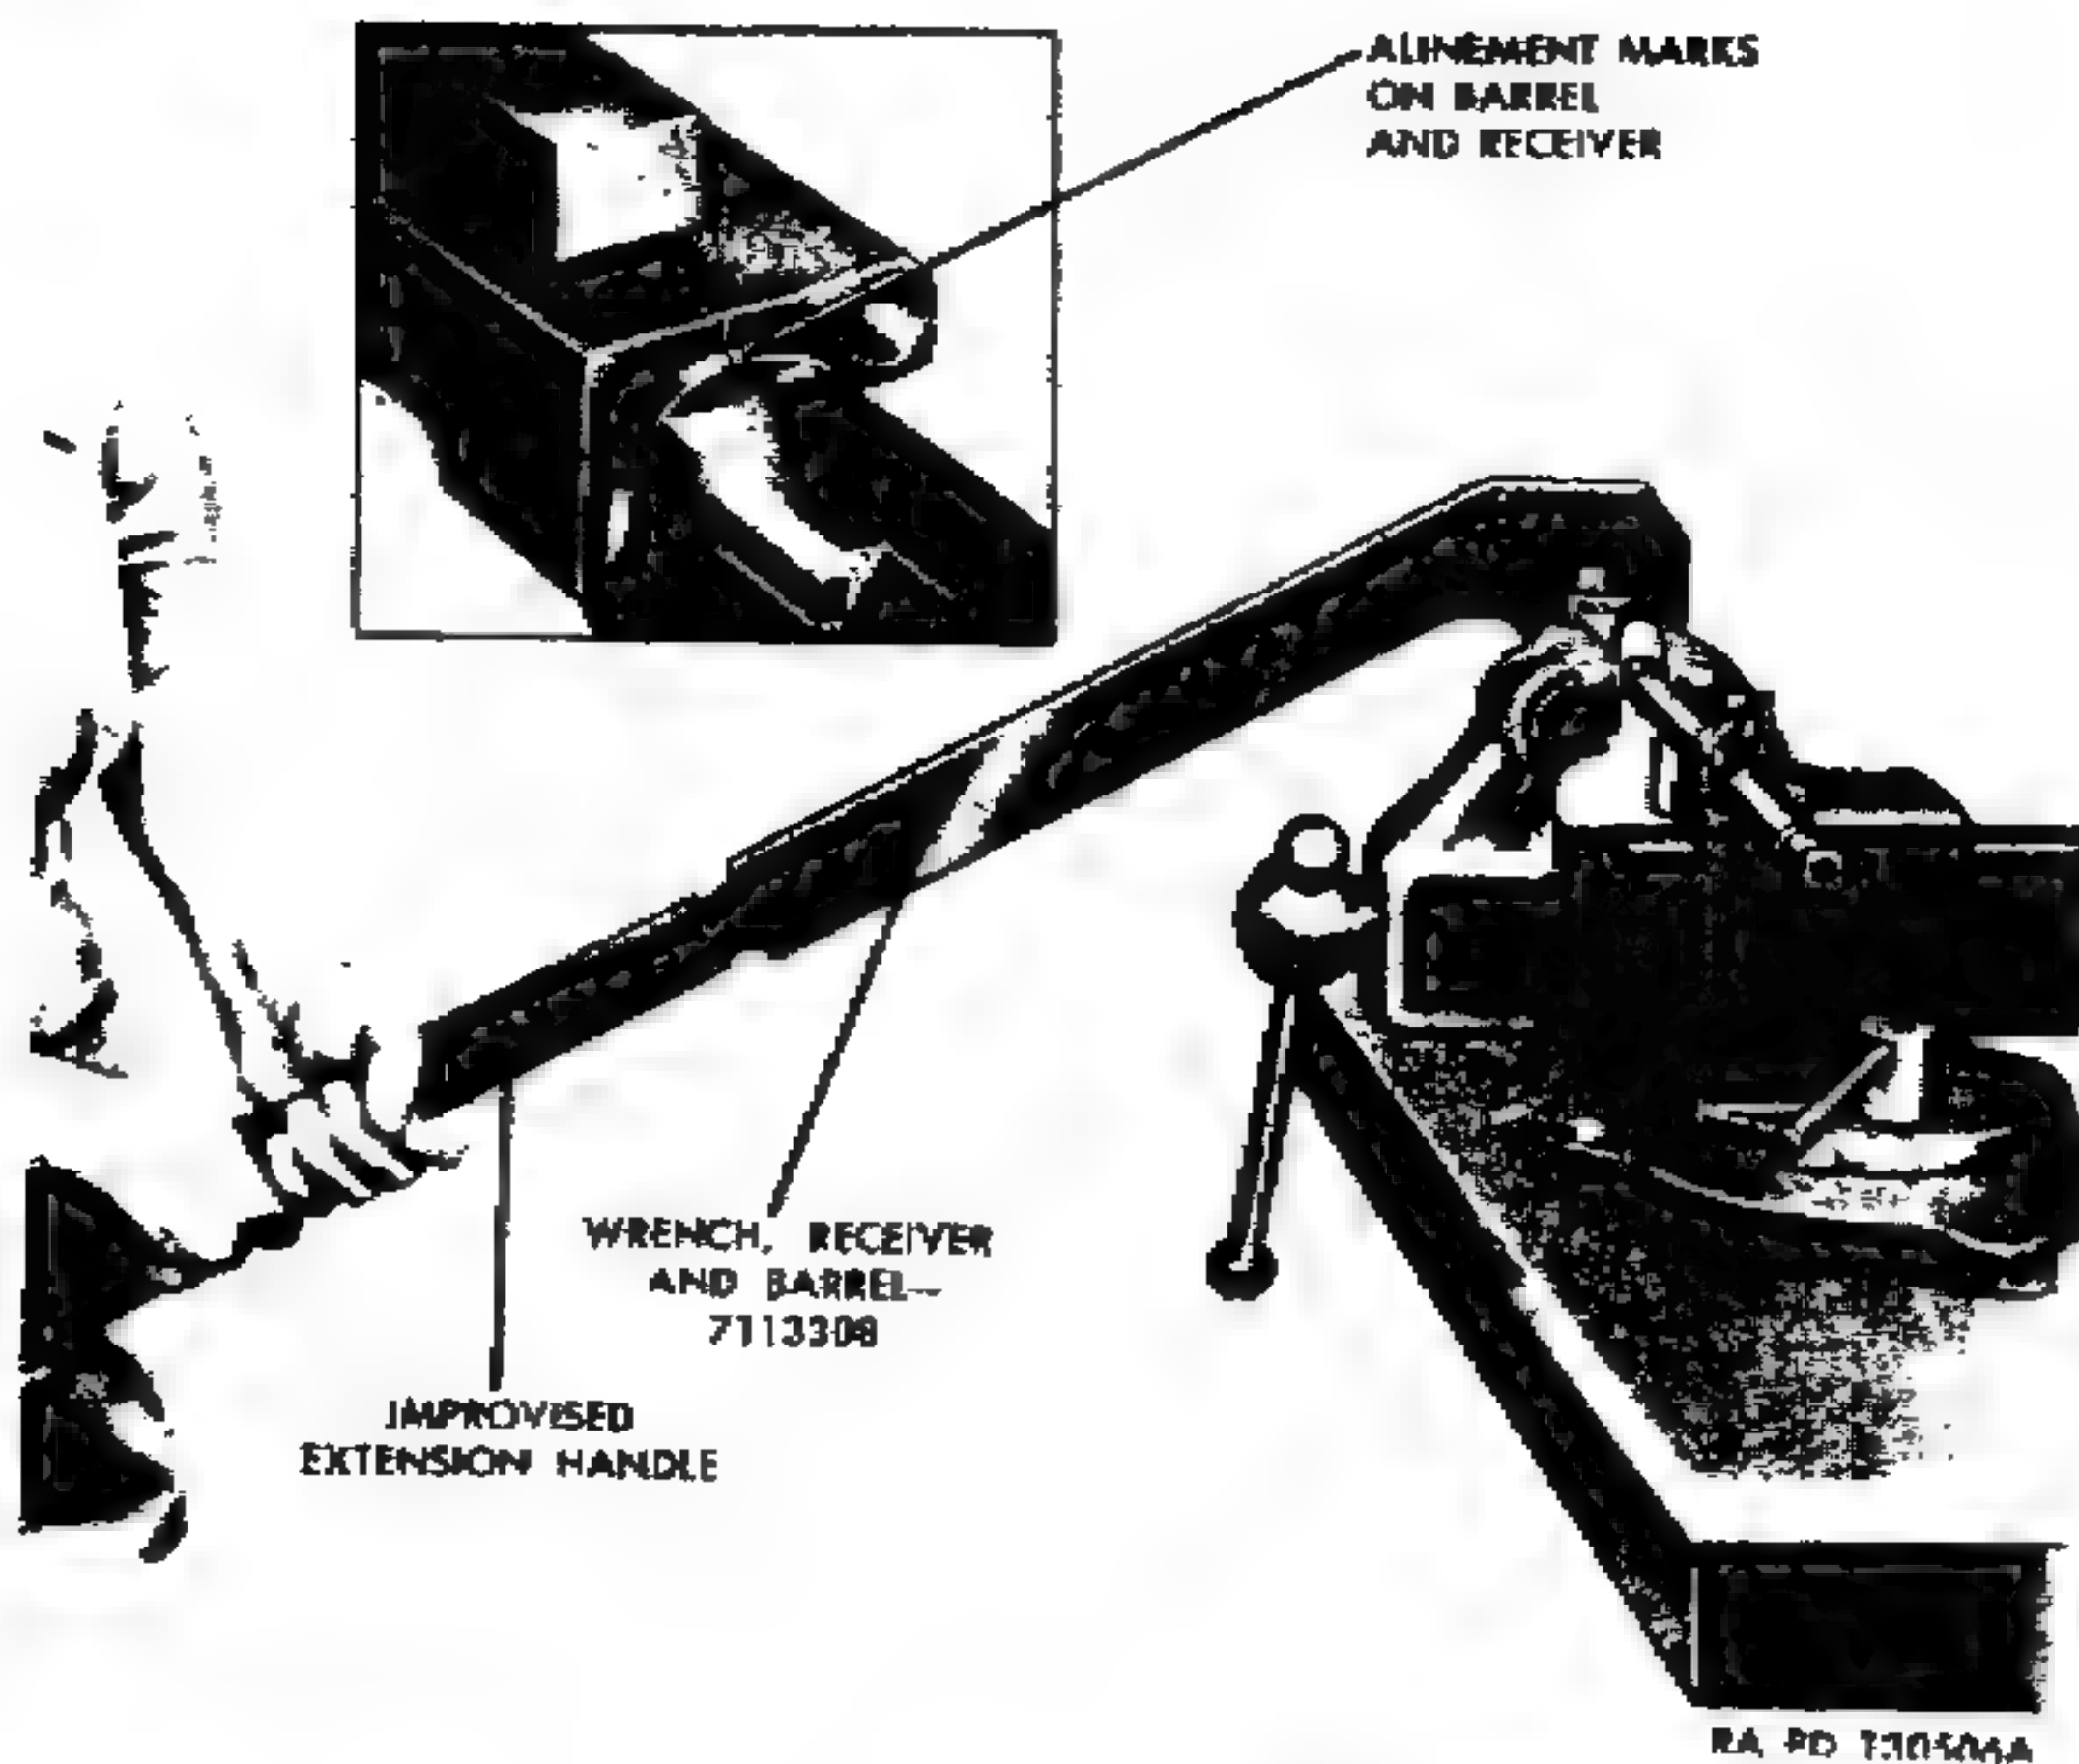
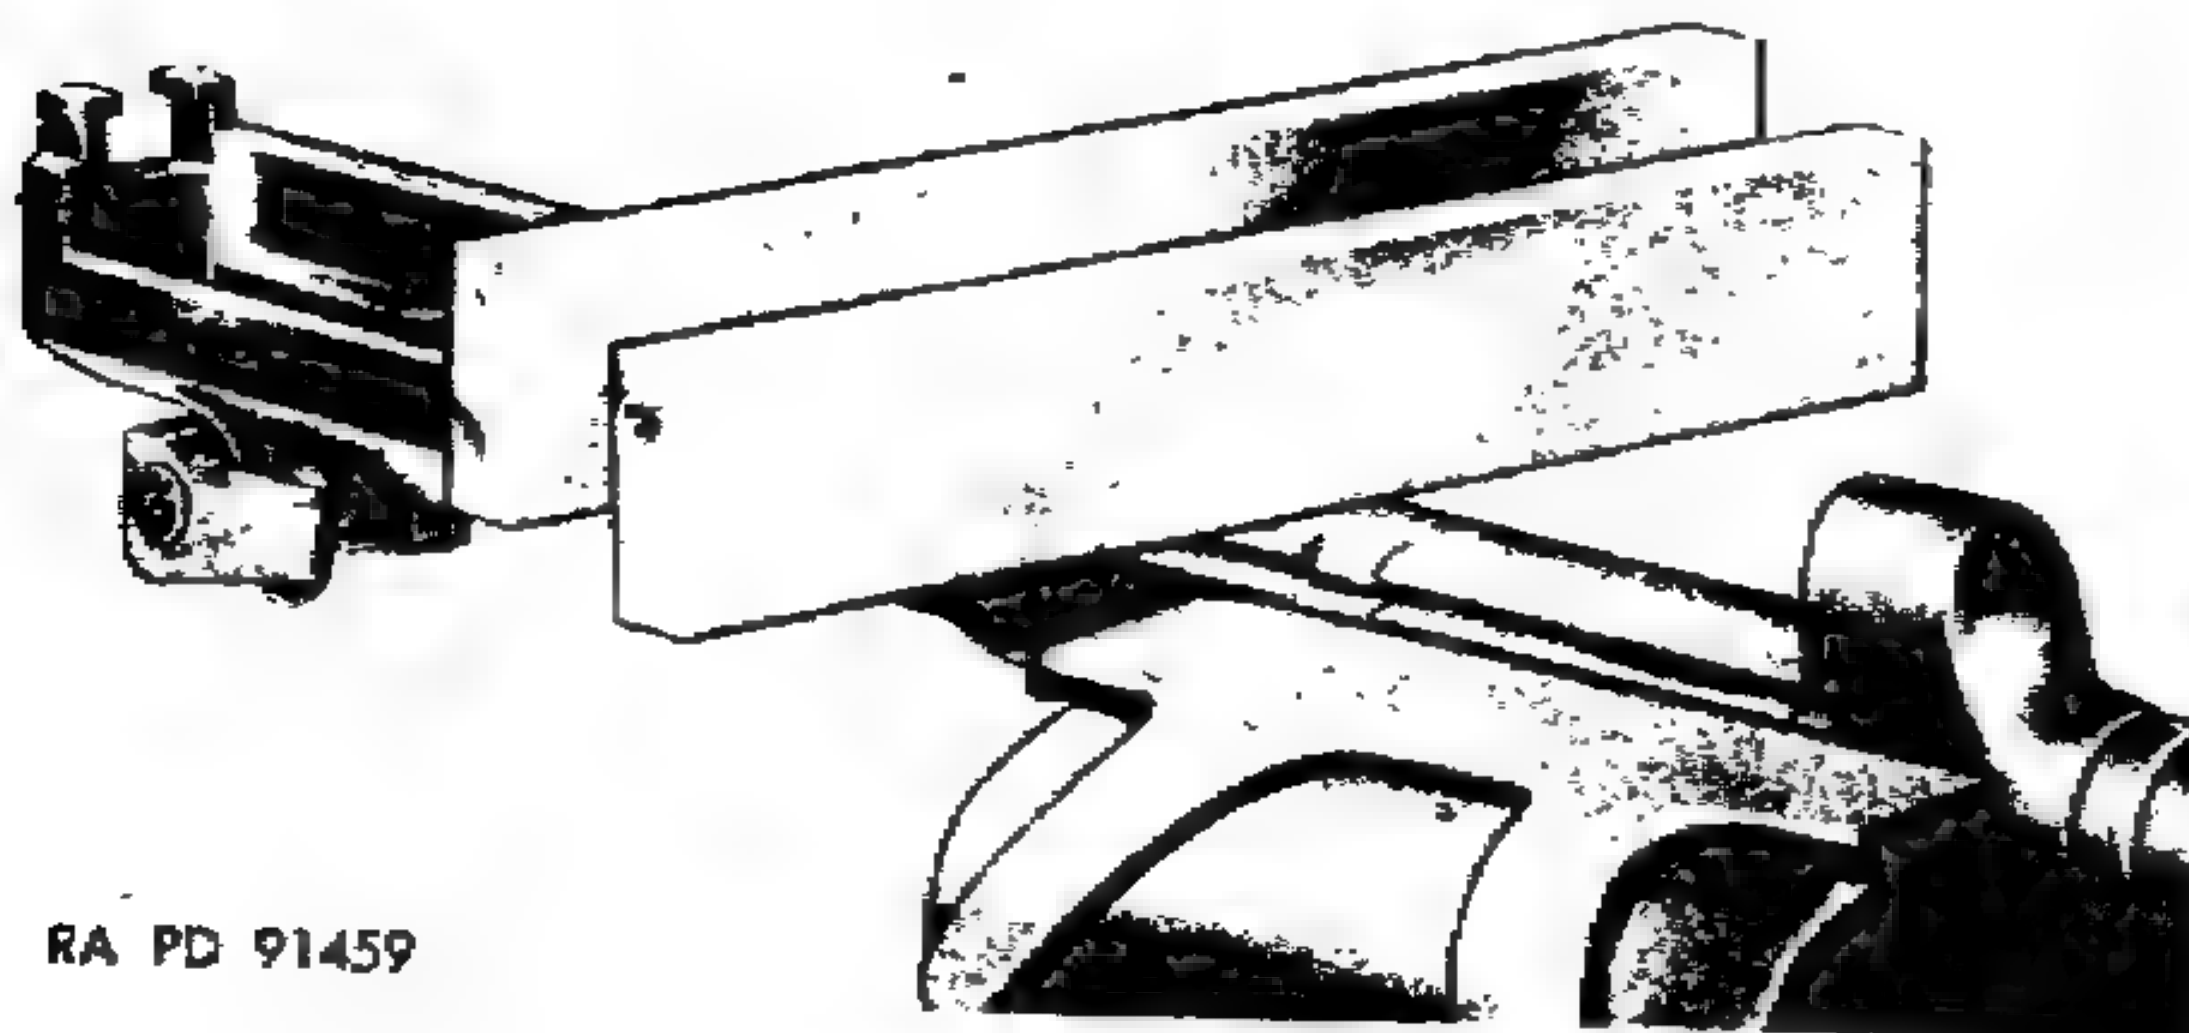

Figure 92. Assembling barrel to receiver.
Figure 93. Checking barrel and receiver alignment.
- (2) The depth or diameter of counterbore will be determined by the amount of blemishes to be removed.
- (3) All barrels will be counterbored slightly during rebuild, even though there is no visible blemish.
a. *Replacing Barrel.* Select proper barrel and receiver combination so that about $\frac{1}{16}$ -inch draw is obtained when assembled. Screw the receiver on the barrel with receiver and barrel wrench 7113308 (fig. 9); draw up receiver until alinement marks on barrel and receiver (fig. 92) coincide. Then determine that the flat surfaces on bottom of barrel and receiver are parallel. Check this by indicator or placing two bars, about 10 inches long, in position as illustrated in figure 93; and sight over the edges. When the two bars lie parallel, the barrel and receiver are in exact alinement for proper functioning.